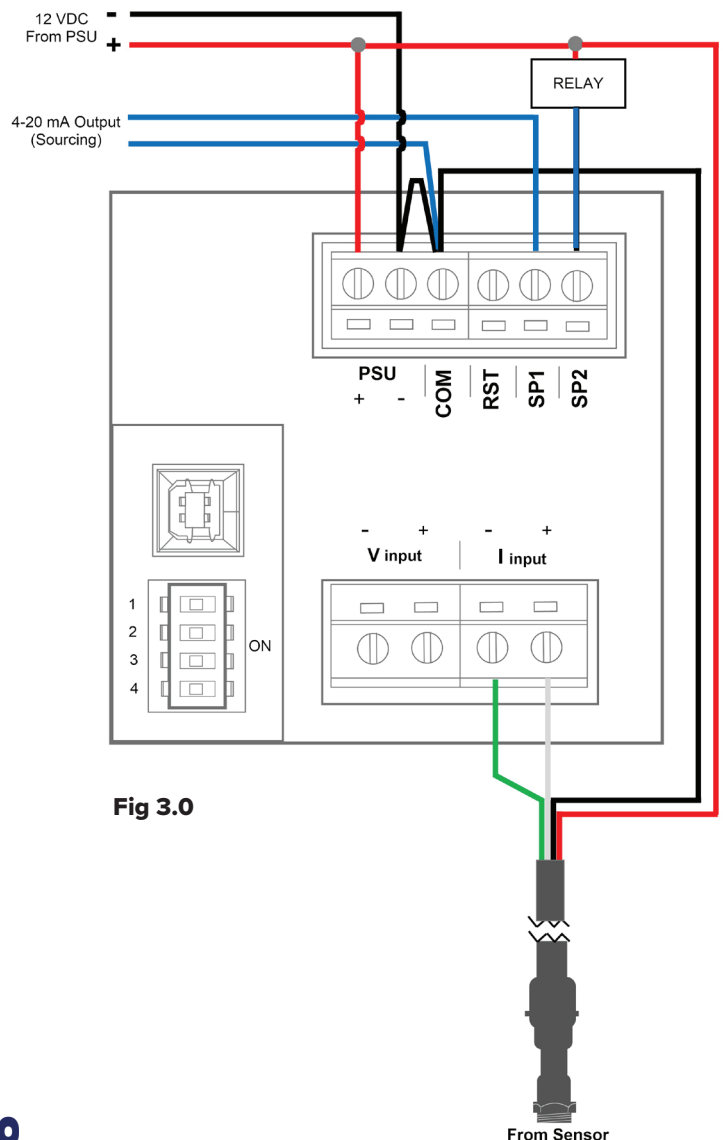

Fig 3.0
11. If being used, connect the alarm relay (see Fig.3.0).